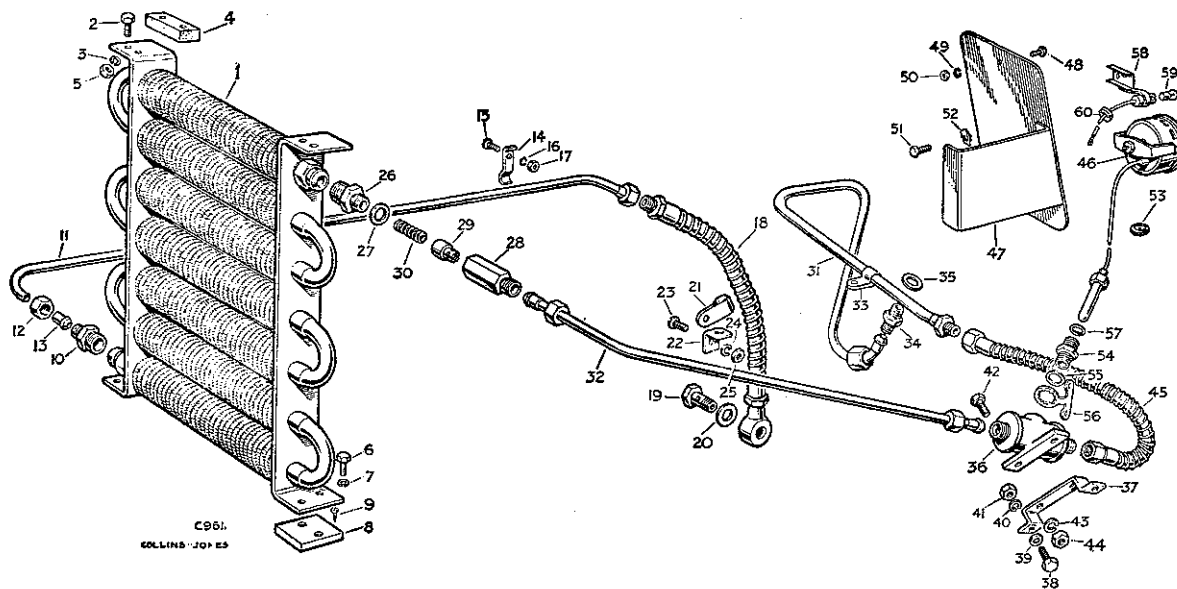

Fig T-22—Layout of oil cooler, Petrol models
28. Tighten the banjo bolt securing the flexible pipe to sump and secure the pipe to a convenient sump securing stud, using a bracket, clip, screw, nut and spring washer—Figs. T-22 and T-25.
29. Fit the oil pipe relief valve to the thermometer pocket, but do not fully tighten the union; connect the pipe to the foremost end of the thermometer bulb pocket—see Figs. T-22 and T-25. Secure the flexible oil pipe to the pocket.
30. Fit the oil pipe, flexible pipe to oil filter adaptor and—Petrol models: secure it with a clip to the thermostat housing stud, or—Diesel models: fit a bracket to the engine lifting bracket, then secure the pipe to the bracket with a clip—see Figs. T-22 and T-25.